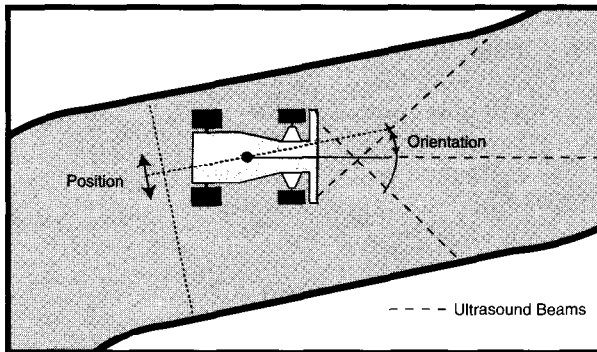

Figure 5—Three ultrasound sensors guide the car in the track.
Sensors are three ultrasound (US) distance sensors for tracking guidance (see Figure 5) and infrared (IR) reflex sensors in each wheel for speed. The control loop time-from reading in sensor signals to setting the values for the actuators-is 10 ms.